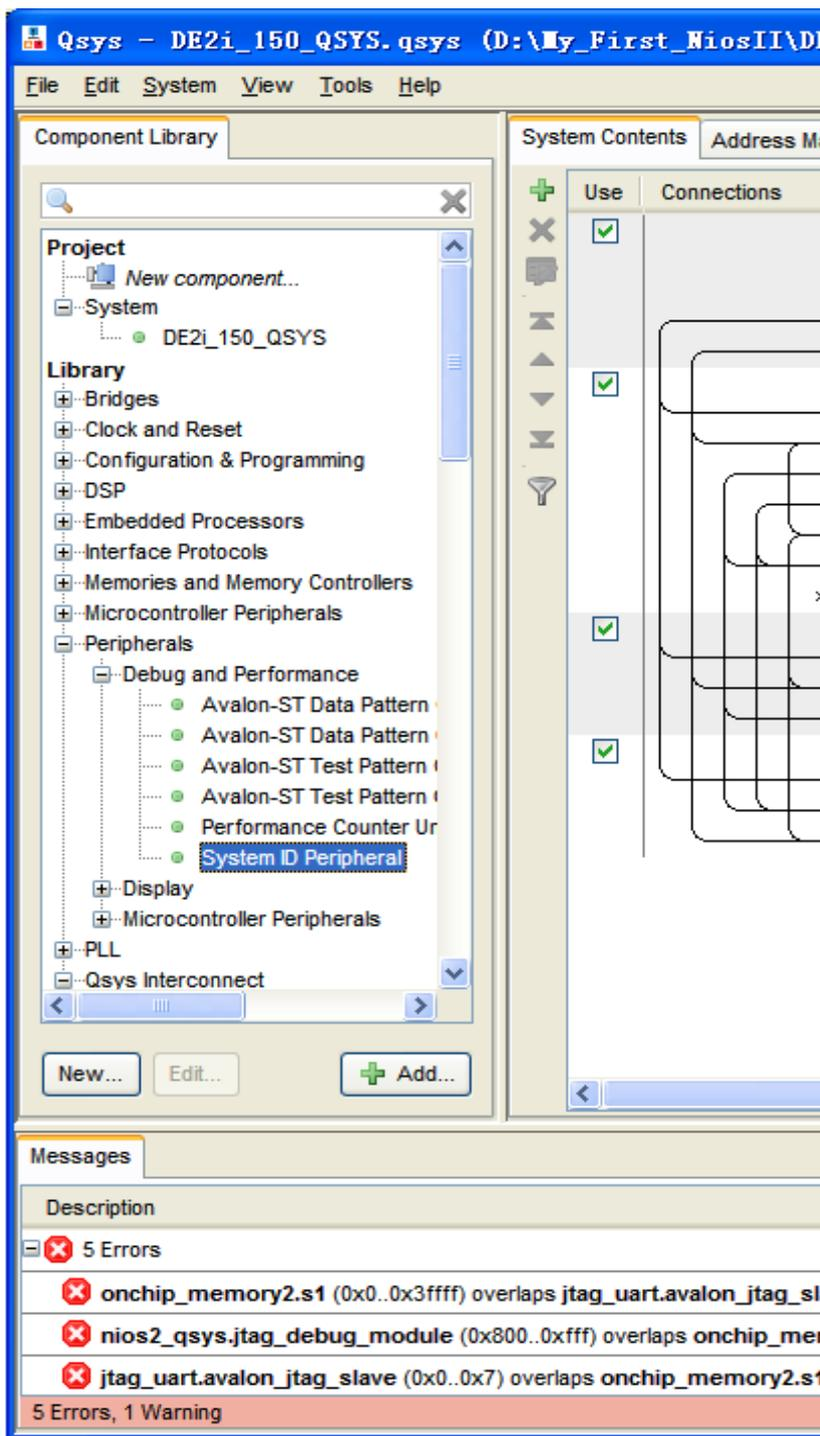
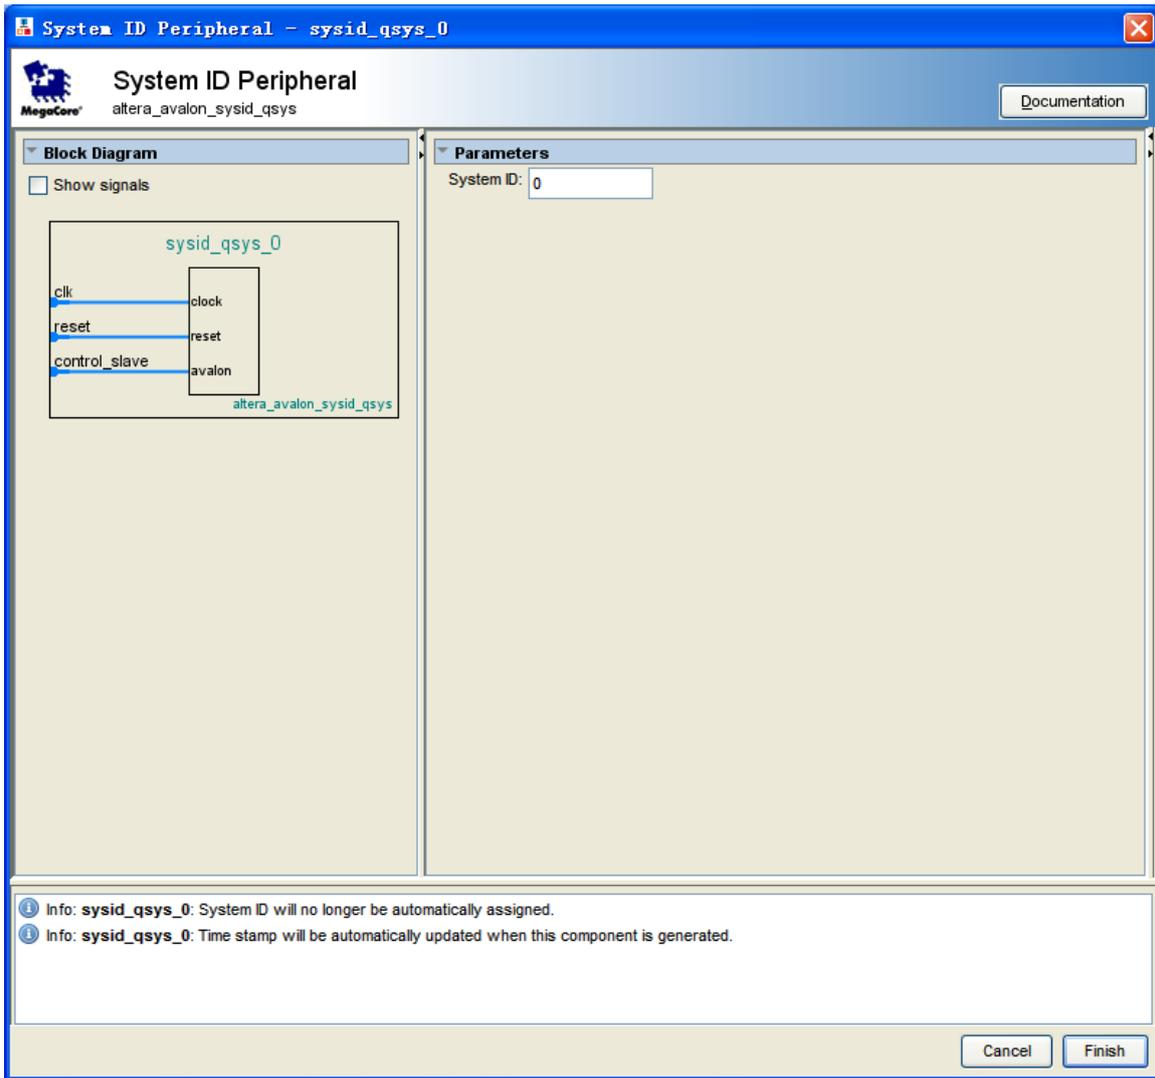

Figure 1-34 Add System ID [0]
Figure 1-35 Add System ID [1]
21. Choose **Library > Peripherals > Debug and Performance > System ID Peripheral** to open wizard of adding **System ID**. See Figure 1-34 and Figure 1-35.